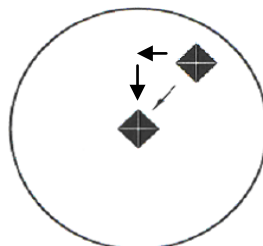

Figure 6-13 Image is randomly scattered
5. The image is randomly scattered. Refer to Figure 6-13.